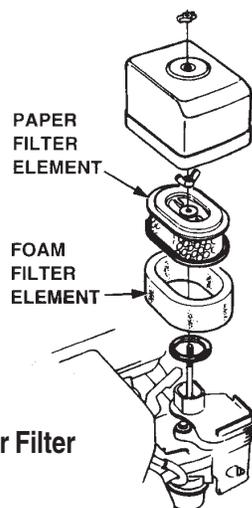

Figure 17. Air Filter
1. Move the throttle lever to the **IDLE** position (Figure 17) and run the engine for three minutes at low speed.
2. To clean or replace air filter loosen the wing nut on the air filter housing (Figure 17), remove the cover and take out air filter cartridge. If only cleaning of the air filter is desired blow through the air filter cartridge from the inside, moving a jet of dry compressed air up and down until all dust is removed.